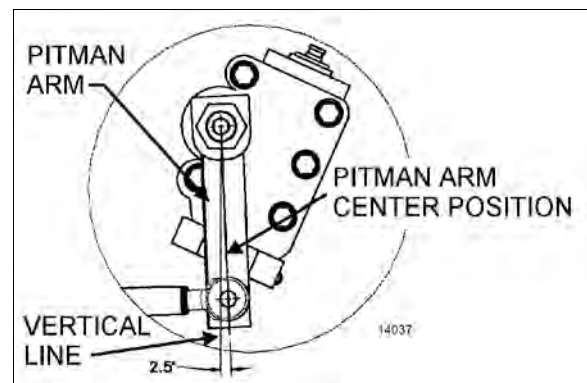

FIGURE 16: I-BEAM FRONT AXLE PITMAN ARM ADJUSTMENT
2. Using a protractor, check the angle of the pitman arm (refer to Figure 16 for details).